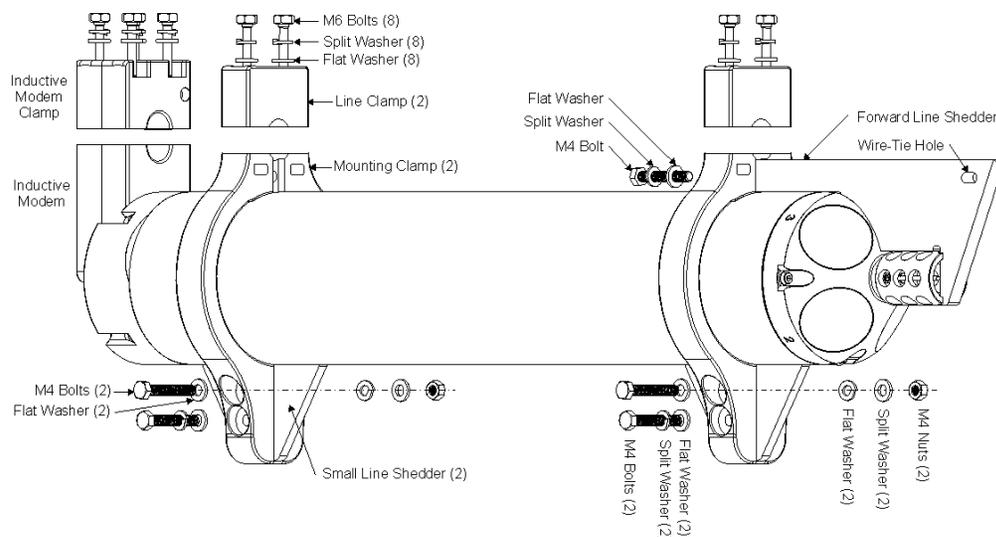

Figure 6. Mounting Hardware
- a. Install the two mounting clamps and line shedders on the DVS housing (see Figure 6).